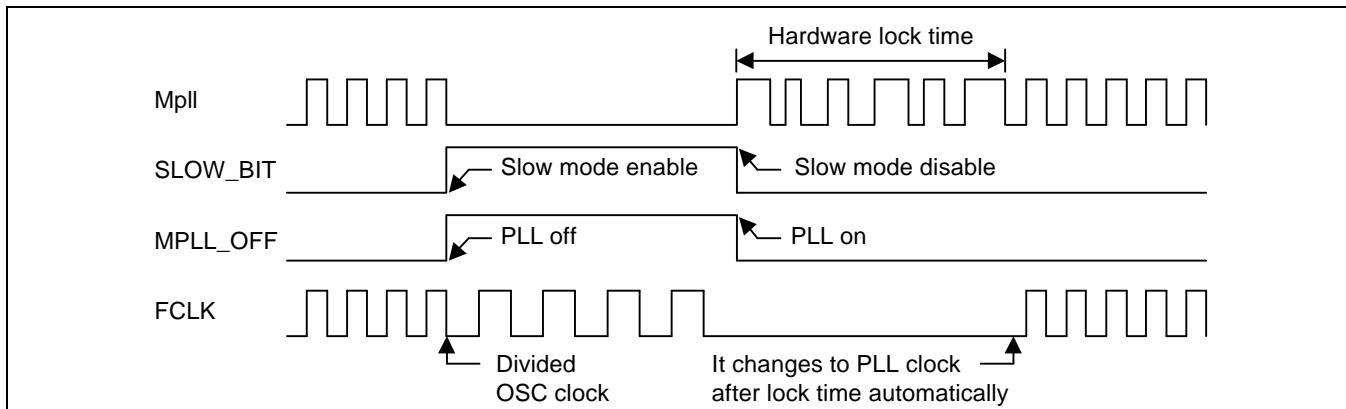

Figure 7-11. Issuing `Exit_from_Slow_mode` Command and the Instant `PLL_on` Command Simultaneously
12. CLOCK & POWER MANAGEMENT : 7-13 : Figure 7-11 : 01/20/2003